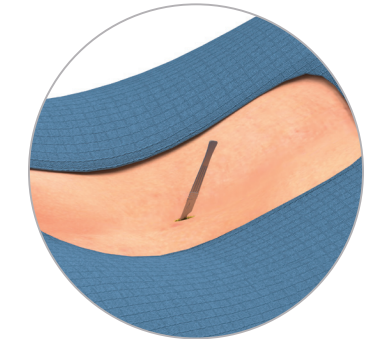
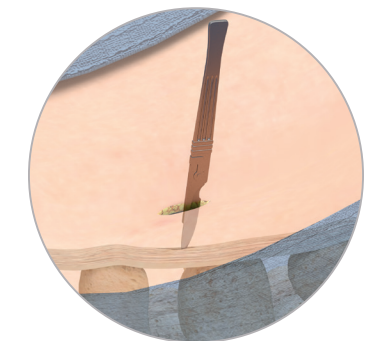

FIG. 3. SKIN INCISION
FIG. 3A. LONGITUDINAL SPLIT OF SSL
2. After confirmation of the surgical level, create a 12-15mm midline incision at the operable level with a scalpel (Fig. 3). Advance the blade with AP and lateral fluoroscopy to produce a longitudinal split of the supraspinous ligament (SSL) at midline (Fig. 3A).
2. After confirmation of the surgical level, create a 12-15mm midline incision at the operable level with a scalpel (Fig. 3).
4. Produce a longitudinal split of the supraspinous ligament (SSL) at midline with blade (Fig. 3A).